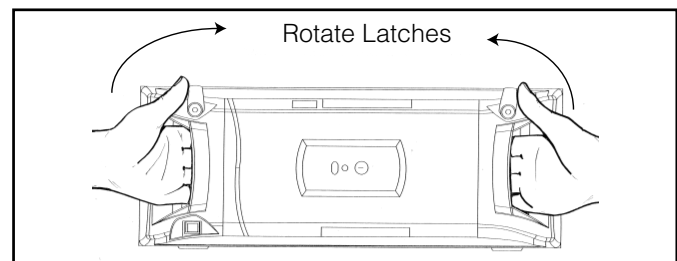

Figure 10 Rotating Door Latches
**Step 1:** To remove the door, hold handles and rotate latches as shown in Figure 10.
Handle the door only by using the handles on the front of the door. Grasp the door by the handles as depicted in Figure 10 to remove and replace the door. Do not handle the door on the edges. Metal edges may be sharp and could result in injury if the door is not handled properly.